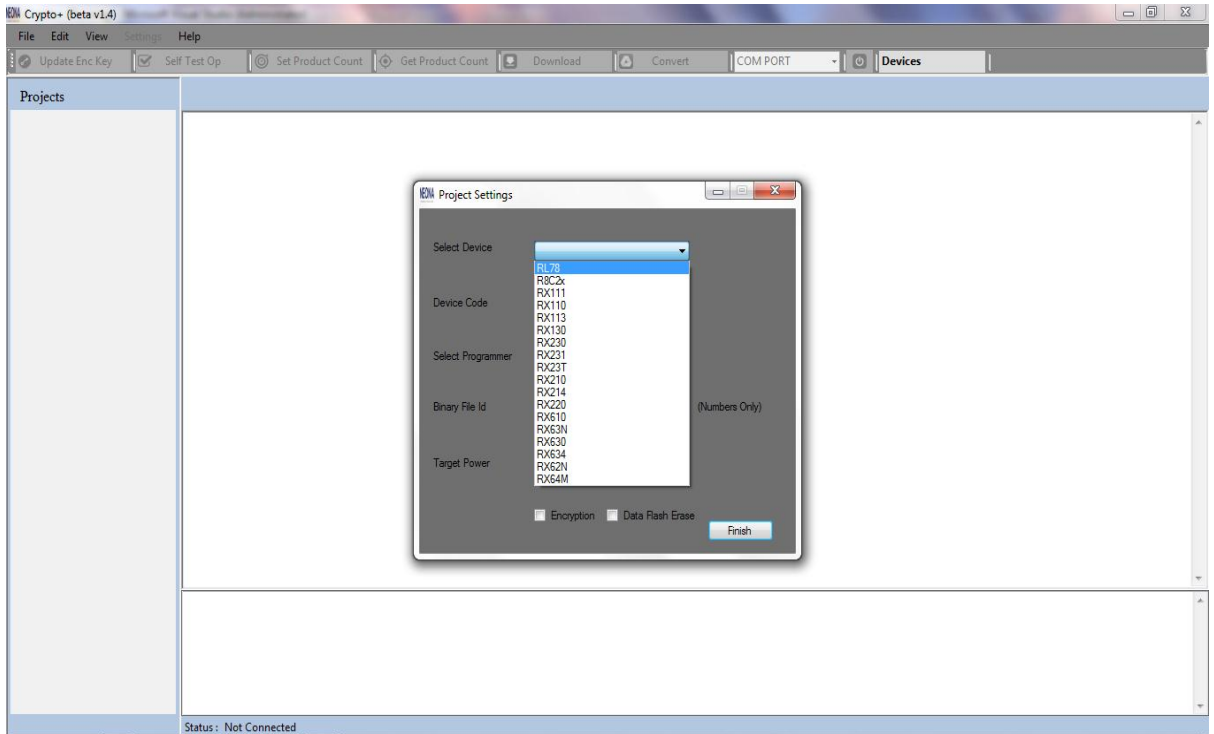

Figure2.14
STEP 5: Select Device- Choose the appropriate microcontroller from the list as shown in figure 2.14.